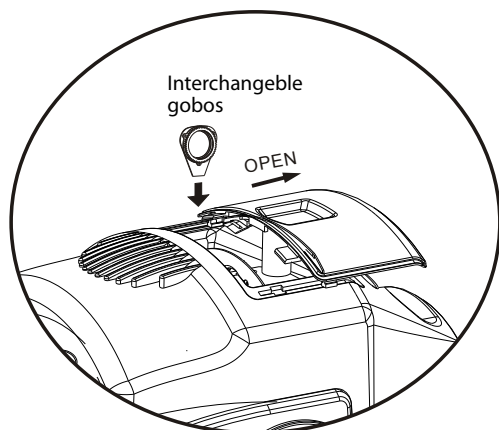

Fig.9
2. Unlock the gobo cover of the pan head (fig.9).